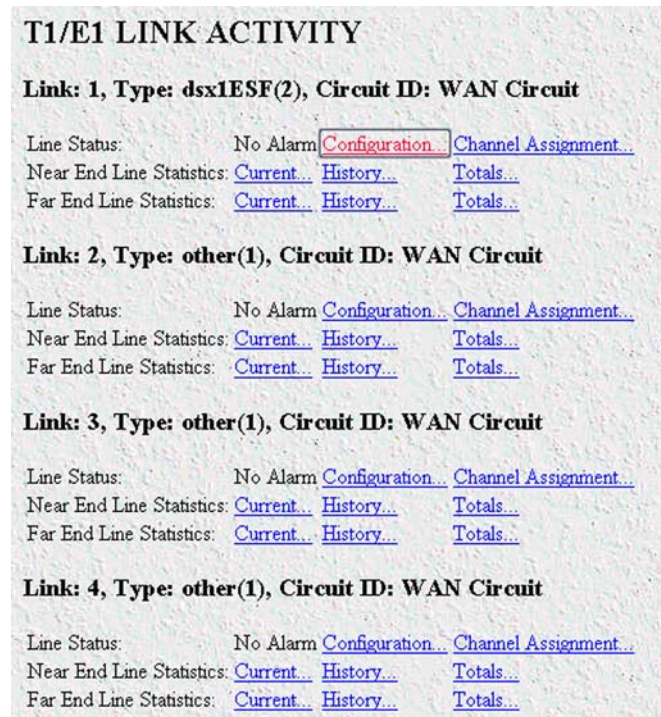

Figure 28. T1/E1 Link Activity window
1. Select T1/E1 Link on the Configuration Menu. The T1/E1 Link Activity window appears (see figure 28).
1. Select T1/E1 Link on the Configuration Menu. The T1/E1 Link Activity window appears (see figure 28 on page 42).